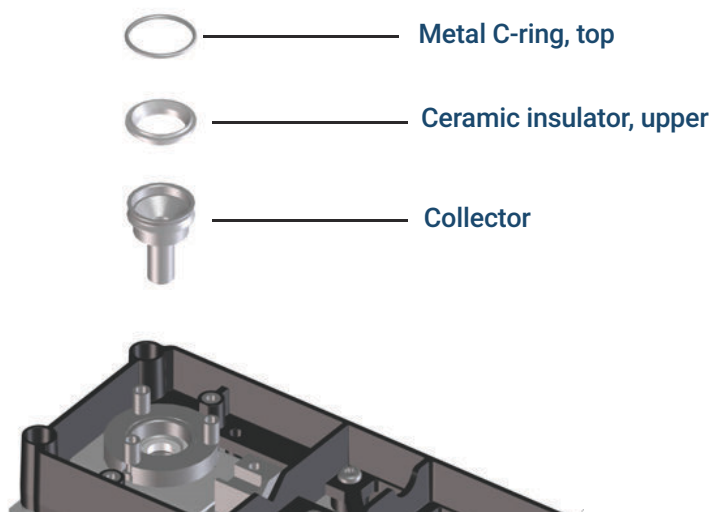

Figure 48. NPD collector, upper insulator, and metal C-ring
24. Install the upper ceramic insulator and top metal C-ring above the collector. See Figure 48.